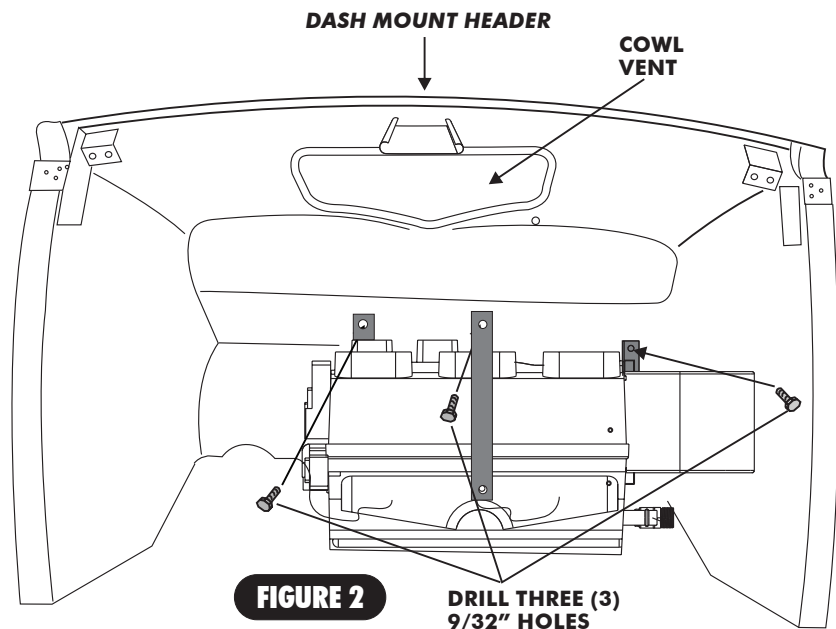

FIGURE 2 DRILL THREE (3) 9/32" HOLES
3. BRACKETS ARE FURNISHED TO MOUNT THE EVAPORATOR CASE. ATTACH TO FIREWALL AS SHOWN IN FIGURE 2.
4. THE COWL VENT HANDLE WILL WORK IF MOVED TO THE SIDE. YOU CAN ALSO CONVERT TO ELECTRIC OR CABLE OPERATION. IF YOU CLOSE OFF THE COWL VENT, THE UNIT WILL FIT HIGHER IN THE CAR. NOTE: TO MOUNT UNIT HIGHER, SIMPLY DETERMINE THE NEW LOCATION, MARK AND RE-DRILL THE BRACKET TO FIT AS DESCRIBED IN STEP 6 AND FIGURE 2, BELOW.
- B. ATTACH REAR BRACKET TO THE EVAPORATOR, USING (2) 1/4-20 x 1/2" BOLTS.
6. HAVE A HELPER HOLD THE UNIT UP AS HIGH AS POSSIBLE, WITH BLOWER HOUSING AGAINST PASSENGER SIDE KICK PANEL. LOCATE THE BRACKET ON THE TOP RIGHT OF THE BLOWER HOUSING. SCRIBE THROUGH THE 1/4" HOLE IN THE BRACKET TO MARK THE FIREWALL. CHECK TO SEE IF THE LOCATION YOU MARKED LOOKS CORRECT AND WILL CLEAR OBSTRUCTIONS ON BOTH SIDES OF THE FIREWALL. IF SO, DRILL A 9/32" HOLE IN THE FIREWALL. ATTACH THE EVAPORATOR TO THE FIREWALL BY THE BLOWER MOTOR BRACKET WITH A 1/4-20 x 1" BOLT AND NUT. LEVEL THE EVAPORATOR UNIT, AND USING THE 1/4" HOLE IN THE EVAPORATOR REAR BRACKET AS A GUIDE, MARK AND DRILL A 9/32" HOLE IN THE FIREWALL. ATTACH THIS BRACKET TO THE FIREWALL WITH A 1/4-20 x 1" BOLT. THIS WILL LOCATE THE EVAPORATOR HORIZONTALLY. NOW SECURE THE FRONT EVAPORATOR SUPPORT STRAP TO THE UNIT WITH THE SUPPLIED 1/4-20 x 1/2" BOLT. THIS SUPPORT BRACKET WILL ATTACH TO THE DASH MOUNT HEADER. WITH THE UNIT HELD IN PLACE (PLUMB AND LEVEL), MARK THROUGH THE 1/4" HOLE AT THE TOP OF THE BRACKET TO THE SHEET METAL HEADER. MAKE SURE THAT THE SPOT MARKED WILL PROVIDE A GOOD MOUNTING LOCATION FOR THIS BRACKET. DRILL 9/32" MOUNTING HOLE. SECURE THE MOUNT STRAP TO THE COWL HEADER AS SHOWN IN FIGURE 2 WITH A 1/4-20 x 1" BOLT AND NUT.